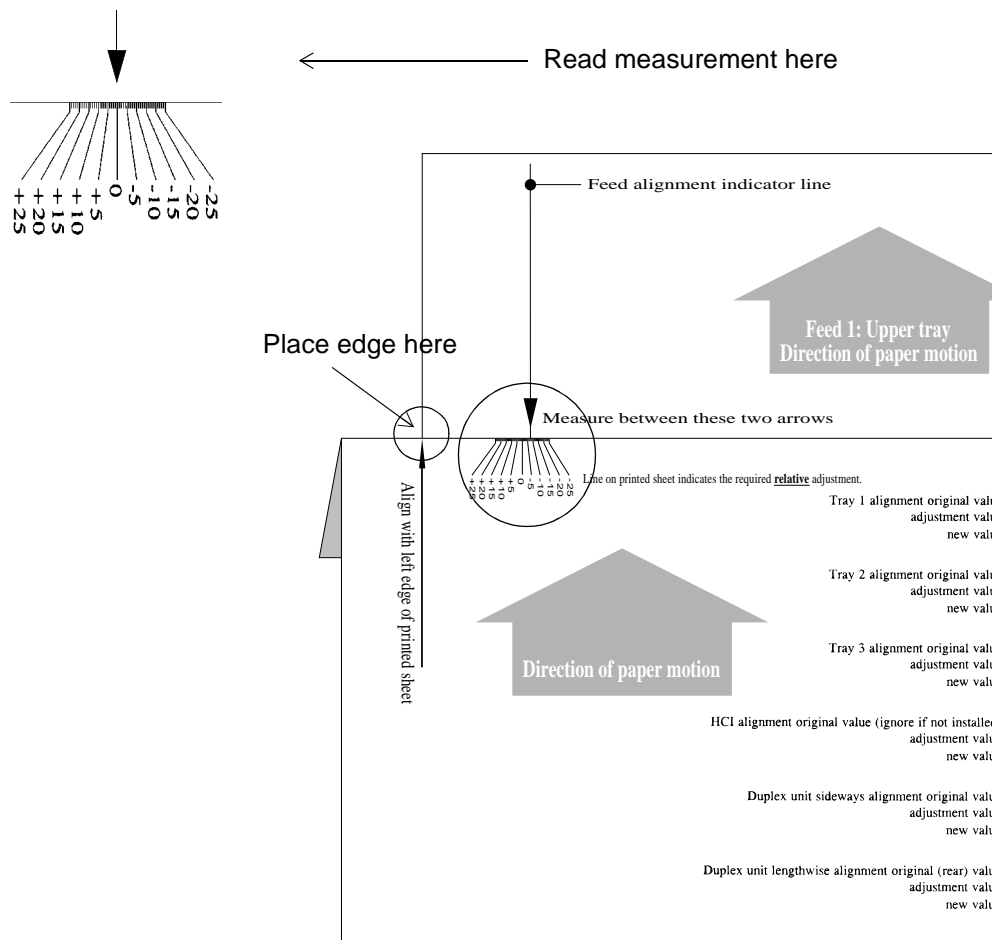

Figure 6-10 Measuring alignment with alignment scale
- Position the line labeled "Align with left edge of printed sheet" against the left edge of the alignment sheet for tray 1. Figure 6-10 shows how the two sheets should look when properly positioned.